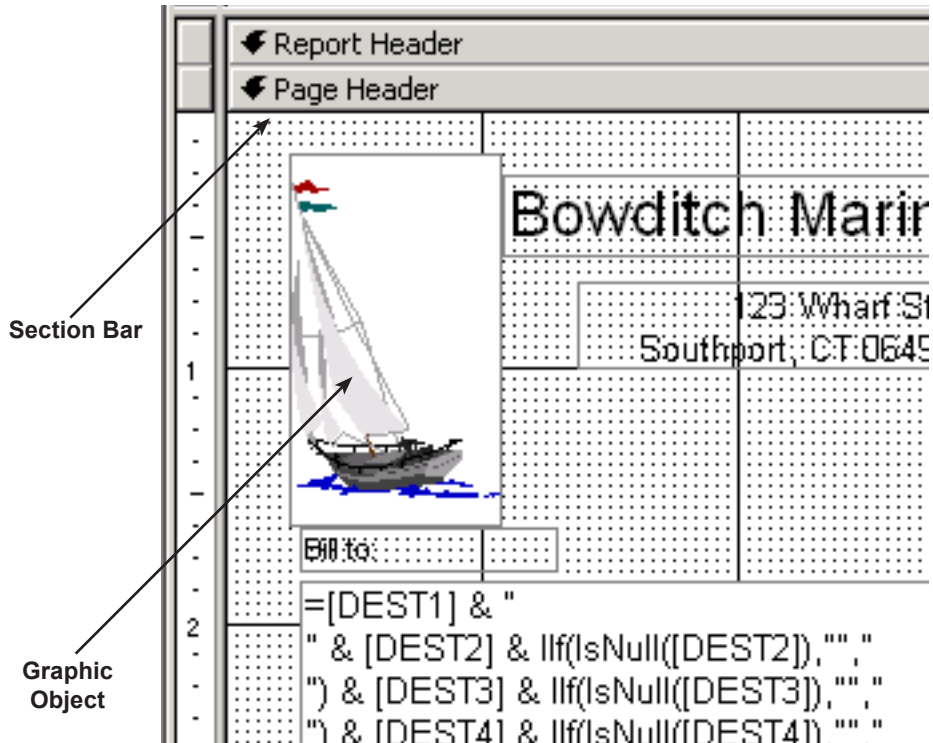

Figure 4-10
4. In Design View mode, navigate to the section of the report where you want to place the graphic image (Page Header, Detail, Page Footer), then click on the section bar for that section (Figure 4-10).
4. In Design View mode, navigate to the section of the report where you want to place the text (Page Header, Detail, Page Footer), then click the section bar for that section (Figure 4-10).